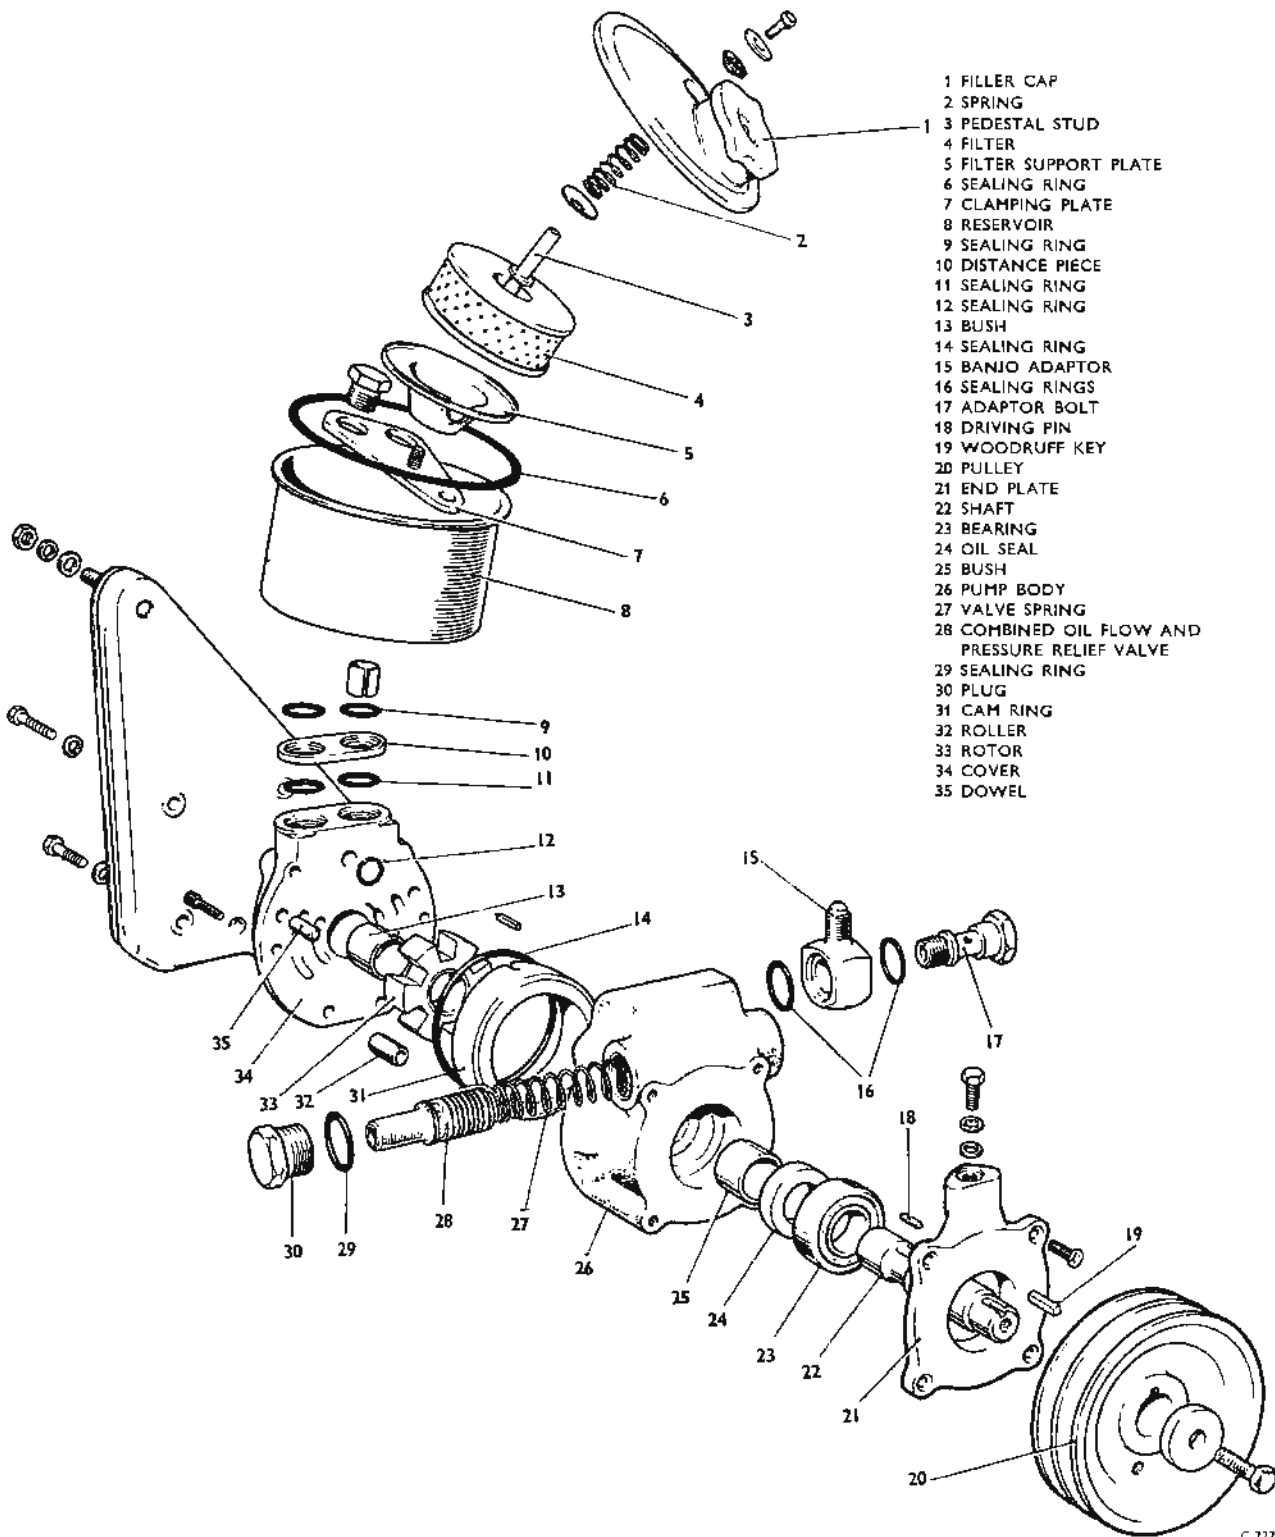

Fig. N4 (S) Exploded view of steering pump
For identification of detail components refer to Figure N4 (S) of this Supplement.
Remove the setscrew and the  $\frac{3}{4}$  in. UNF blanking plug, then withdraw the clamping plate (7). See Figure N4 (S) of this Supplement.
Separate the pump from the cover and collect the sealing ring (14) shown in Figure N4 (S) of this Supplement.
Remove the flow control valve plug (30) (see Figure N4 (S) of this Supplement) from the side of the pump body and withdraw the combined flow control and relief valve, taking care not to misplace the flow control valve spring.